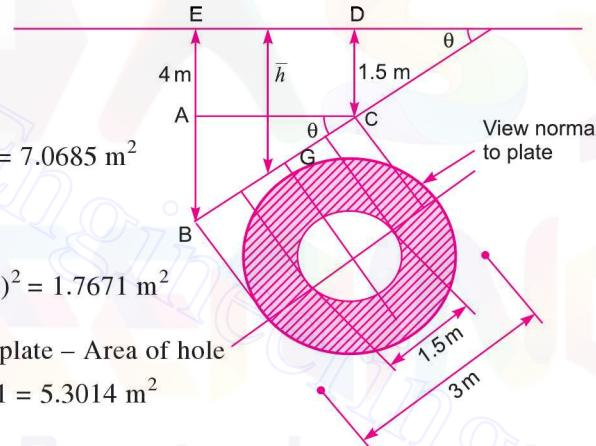

Fig. 3.20 (a)
**Solution.** Given : [Refer to Fig. 3.20 (a)]